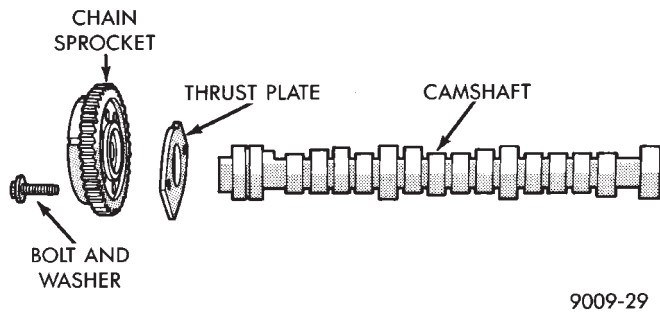

Fig. 25 Camshaft and Sprocket
(4) Install a long bolt into front of camshaft to facilitate removal of the camshaft; remove camshaft, being careful not to damage cam bearing with the cam lobes (Fig. 25).